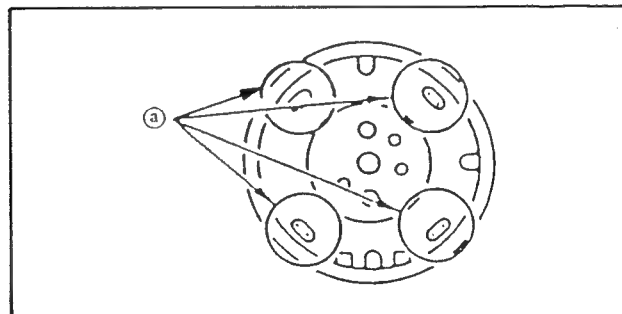

Fig. III-60
* Parts (a) in the Fig. III-60 are plug-in type